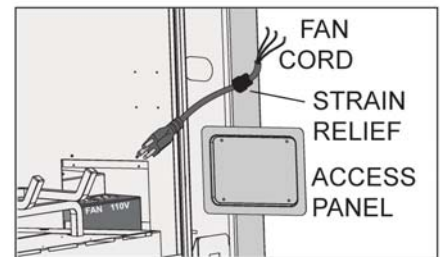

FIGURE 5
c) Remove the access panel inside the firebox. Plug the fan cord into the control box receptacle marked "fan" located in the back right side of the unit. Using the strain relief provided bring the bare wires up through the bottom of the junction box leaving enough wire to hook up the blower. **FIGURE 5**